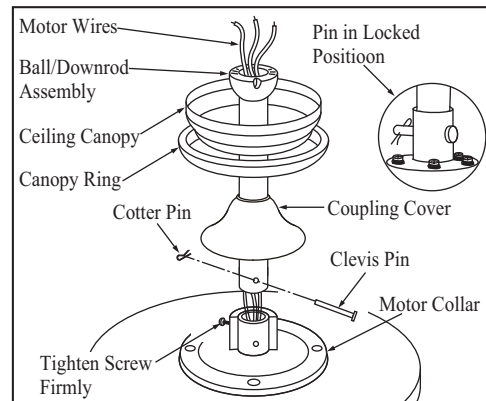

Figure 7
3. Route wires exiting from the top of the fan motor through the coupling cover and canopy ring. Make sure the slot openings are on top. Route the wires through the canopy and then through the ball/downrod assembly (Figure 7).
5. Align the holes at the bottom of the downrod with the holes in the coupling on top of the motor housing (Figure 7). Carefully insert the clevis pin through the holes in the collar and downrod. Be careful not to jam the clevis pin against the wiring inside the downrod. Insert the cotter pin through the hole near the end of the clevis pin until it snaps into its locked position, as noted in the circle inset of Fig. 7.
6. Tighten two set screws on top of the fan motor firmly. (Figure 7)